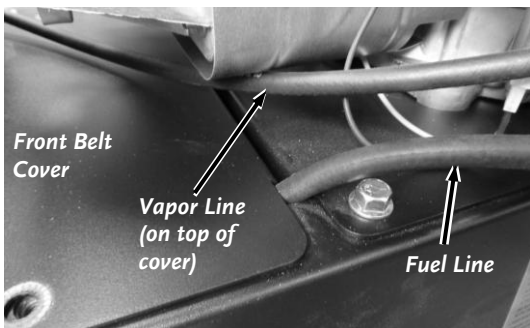

Figure 56
9. Reinstall the Gas Tank Support making sure that the Hose are in the proper location and do not get pinched (**Figure 56**).